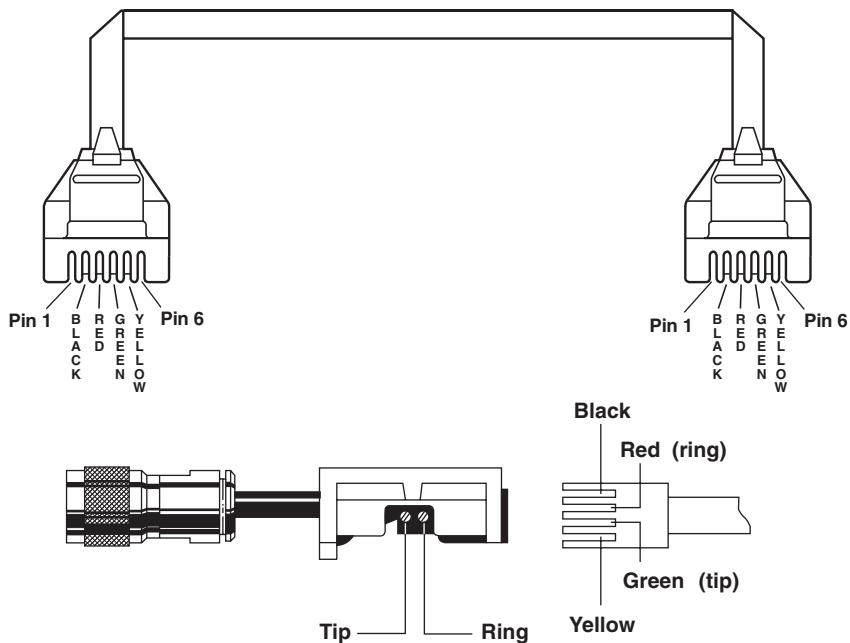
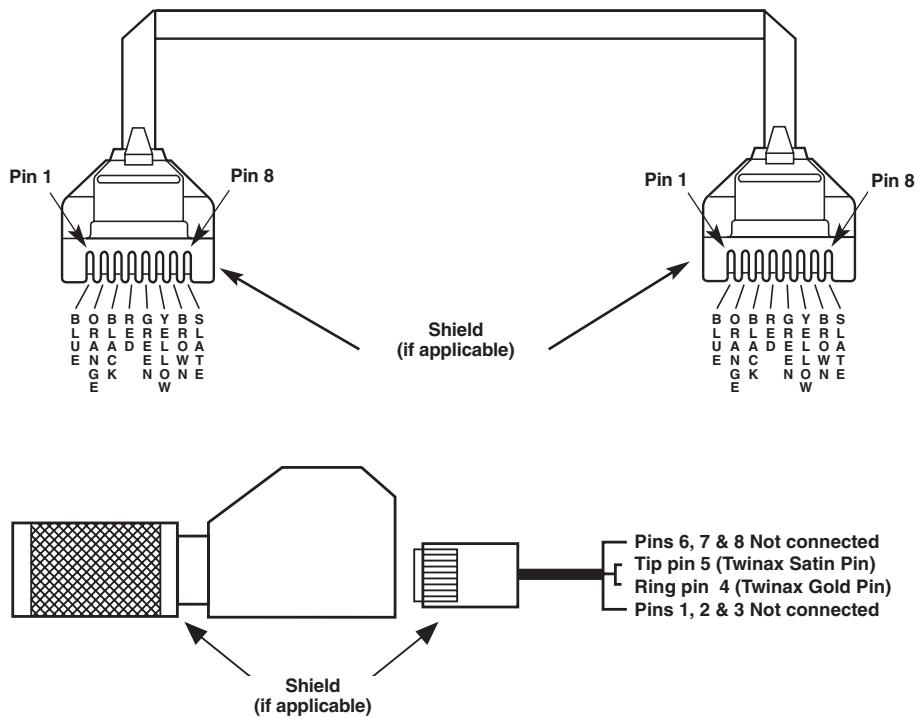

Figure 3. Modular jack pin-out conventions for RJ-11.
Figure 4. Modular jack pin-out conventions for RJ-45.
1. Identify the pin configuration (see **Figures 3 and 4**).
Figure 4 illustrates modular jack pin-out conventions for RJ-11. The standard is Pin 3 for Ring and Pin 4 for Tip. This is a straight-pinned cable.
Figure 4 illustrates modular jack pin-out conventions for RJ-45. It also is a straight-pinned cable.
Baluns are polarity-sensitive. Cables must be wired straight-through, as in Figure 3 (Tip to Tip and Ring to Ring) and Figure 4. Data will not be transmitted if there are crossovers on the cable. If your terminal will not work, and distance is within specified limits, try reversing Tip and Ring at one of the baluns.